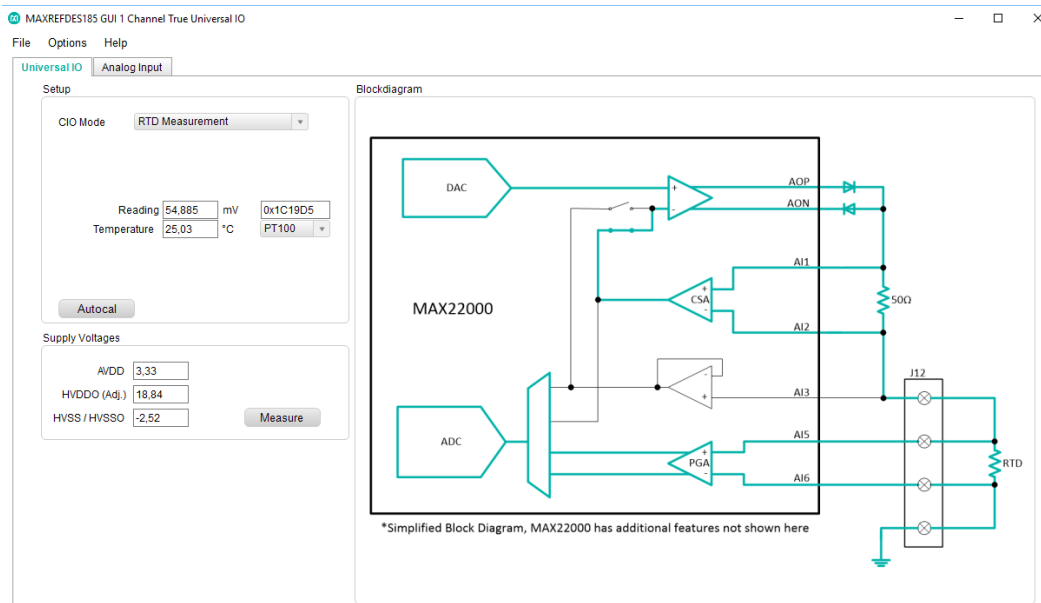

Figure 19. RTD measurement.
28. **RTD Measurement:** RTD measurement allows a PT100 or PT1000 temperature sensor to be used. The MAX22000 DAC output to J12 Pin 1 drives current through the sensor to GND (J12 Pin 4). The voltage is measured using the SNS+ and SNS- inputs, J12 Pin 2 and Pin 3. For this mode of operation, remove any shunts on JP1 and JP2 (**Figure 19**).